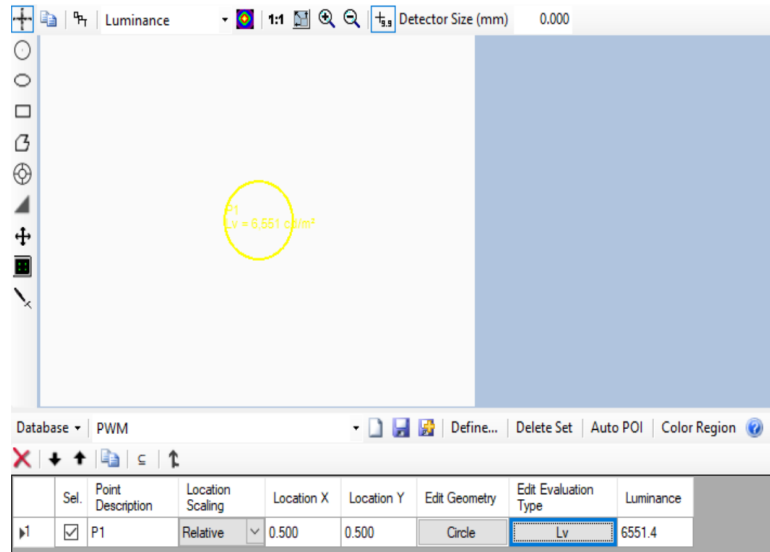

Figure 6 – Create a new PWM POI.
4. Create a new Point of Interest (POI) called PWM. Draw a circular POI and place it at the center. Set the Evaluation Type to **Lv** (luminance), as shown in Figure 6. Then save, , and close out of the Define Points of Interest window. Please see the help file, , if you have any questions.